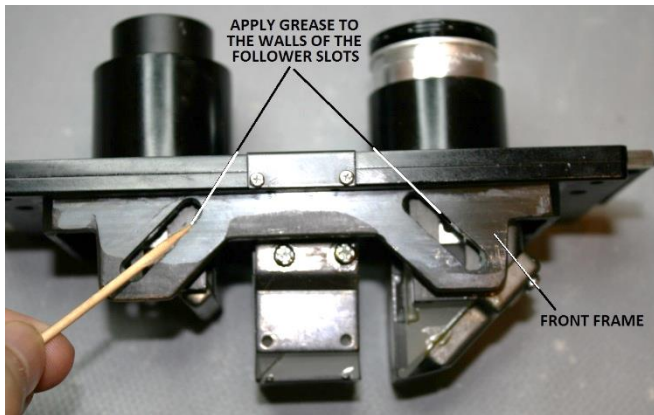

Figure 104 – Grease two slots in the top of front frame
Apply a light coating of suitable grease (item 5 of Appendix 1) onto the inside walls of the two slots in the top of the front frame (see Figure 104).